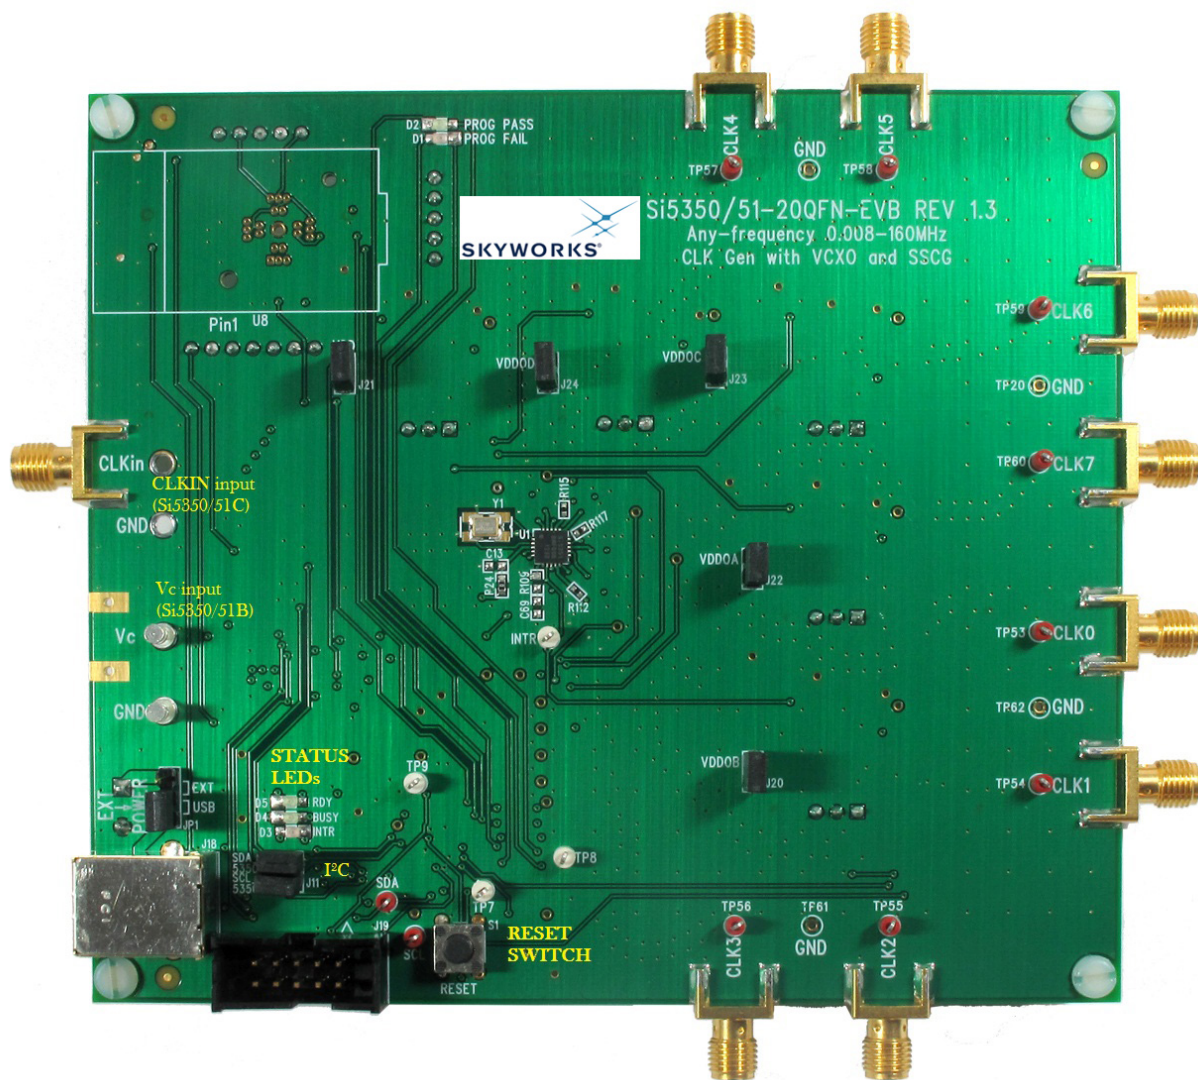

Figure 1. EVB Features (Front)
Figures 1 and 2 highlight the main features of the EVB. The onboard MCU is responsible for programming the Si535x timing IC, measuring the device's current consumption reported in the ClockBuilder™ Pro EVB GUI, managing power, and controlling status LEDs. VDD and VDDO jumpers allow the option of choosing between 1.8 (VDDO only), 2.5, and 3.3 V or powering the device with external supplies (see Section “2. Jumpers” for details). I2C jumpers allow the Si535x to be disconnected from the I2C bus, allowing external control from another I2C master.
- **EXT POWER**—Allows user to select between 5 V USB supply and 5 V external supply on J17. See Figure 1 for jumper locations.